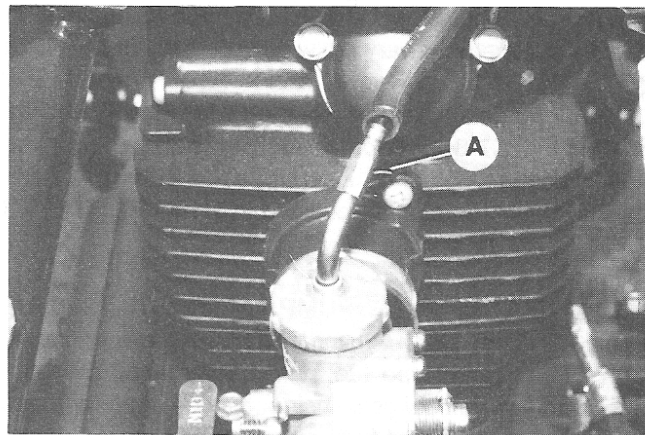

Fig. K7-13—Throttle lever free play can be adjusted by turning adjuster (A) at carburetor cap.
THROTTLE LEVER FREE PLAY. The throttle lever should have 2-3 mm ($\frac{5}{64}$ - $\frac{1}{8}$ in.) of free play measured at throttle lever end as shown at (F—Fig. K7-12). Depending on model and year produced, throttle lever free play can be adjusted at throttle lever by turning adjuster (1) at throttle lever, adjuster (A—Fig. K7-13) at carburetor cap or adjuster incorporated into cable housing between lever and carburetor. Cover adjuster with rubber boot after adjustment.